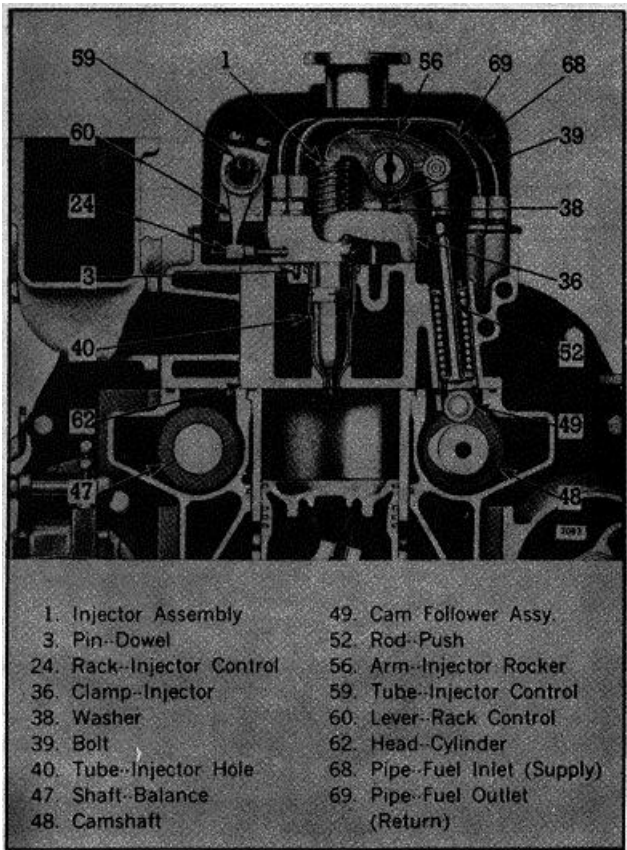

Fig. 6 Fuel Injector Mounting
The motion of the injector rocker arm is transmitted to the plunger by the follower which bears against the follower spring (Fig. 6). In addition to the reciprocating motion, the plunger can be rotated, during operation, around its axis by the gear which meshes with the control rack; For metering the fuel, an upper helix and a lower helix are machined in the lower part of the plunger. The relation of the helices to the two ports changes with the rotation of the plunger.
2. Remove the fuel pipes from both the injector and the fuel connectors (Fig. 6).